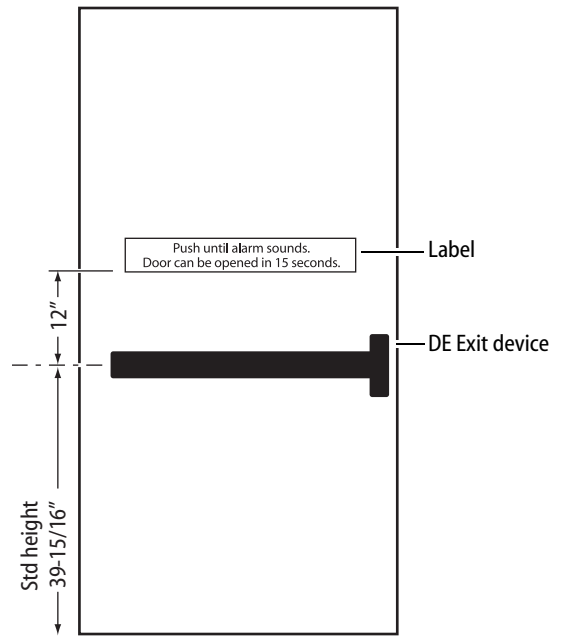

Figure 2 Door showing the application of the label.
- 4 Apply the included label "**Push until alarm sounds. Door can be opened in 15 seconds**" centered on the door and one foot above the DE device as shown in Figure 2.